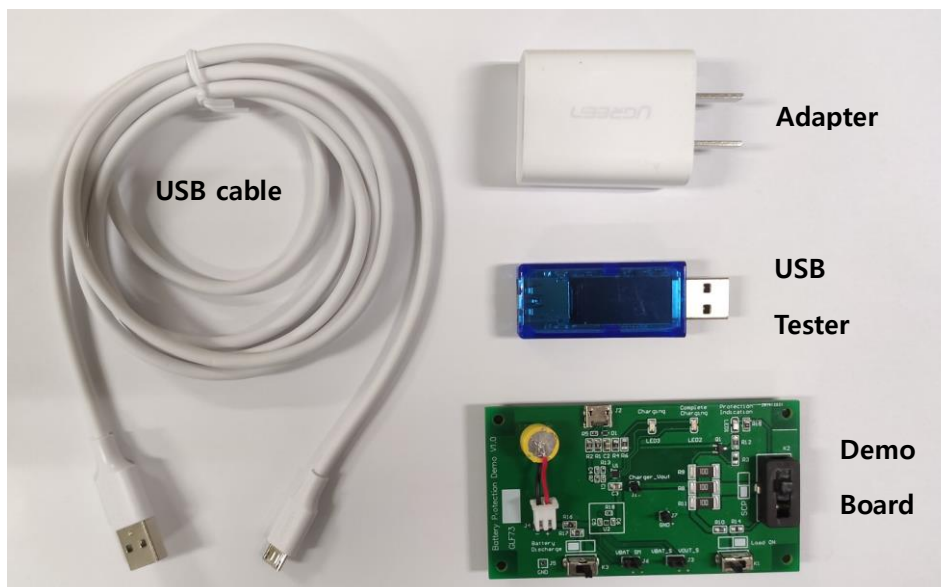

Fig 1. Battery protection demo and accessories
The whole set of Demo consists of battery protection demo V1.0 and accessories, shown in *Fig 1*.
1. The Battery protection demo is shown in the lower right corner of *Figure 1*. The parameters of the charger are: CC = 45 mA, the charge cut-off current is 4 mA, CV = 4.2 V; the battery model is: LIR1054, 55 mAh, and the charge cut-off voltage is 4.35 V.